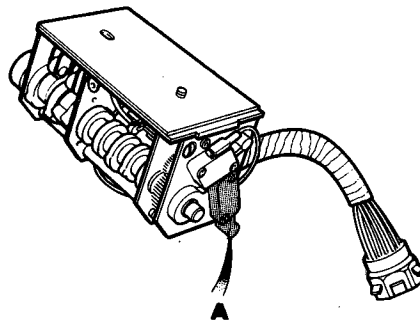

Fig. 88
4. Carefully move aside the shield to gain access to the Ranco override micro switch, (A, Fig. 88).
5. Disconnect the green/brown (GN) lead and insulate.